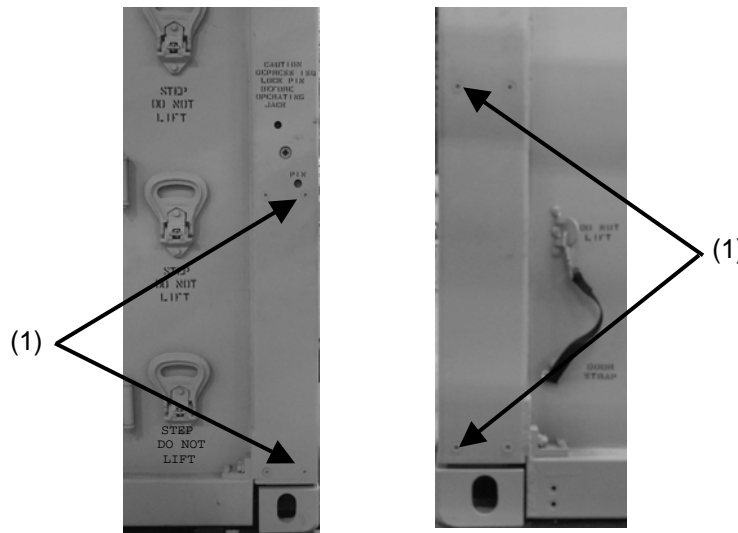

Figure 4-62. Corner posts of container.
1. Using a 5/16" hex key (WP 0058 00, SATS Base Tool Component List), remove the eight bolts (1) attaching jack that is to be removed (Fig. 4-62).
5. Insert eight bolts into provided holes (see Fig. 4-62) and tighten using a 5/16" hex key.